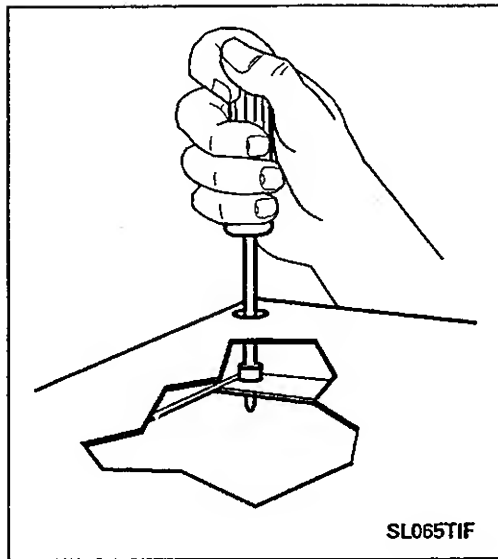

Figure 9-7
5. Remove two 3/8" hex head screws securing the top cover to the rear cabinet flange (*Figure 9-7*).